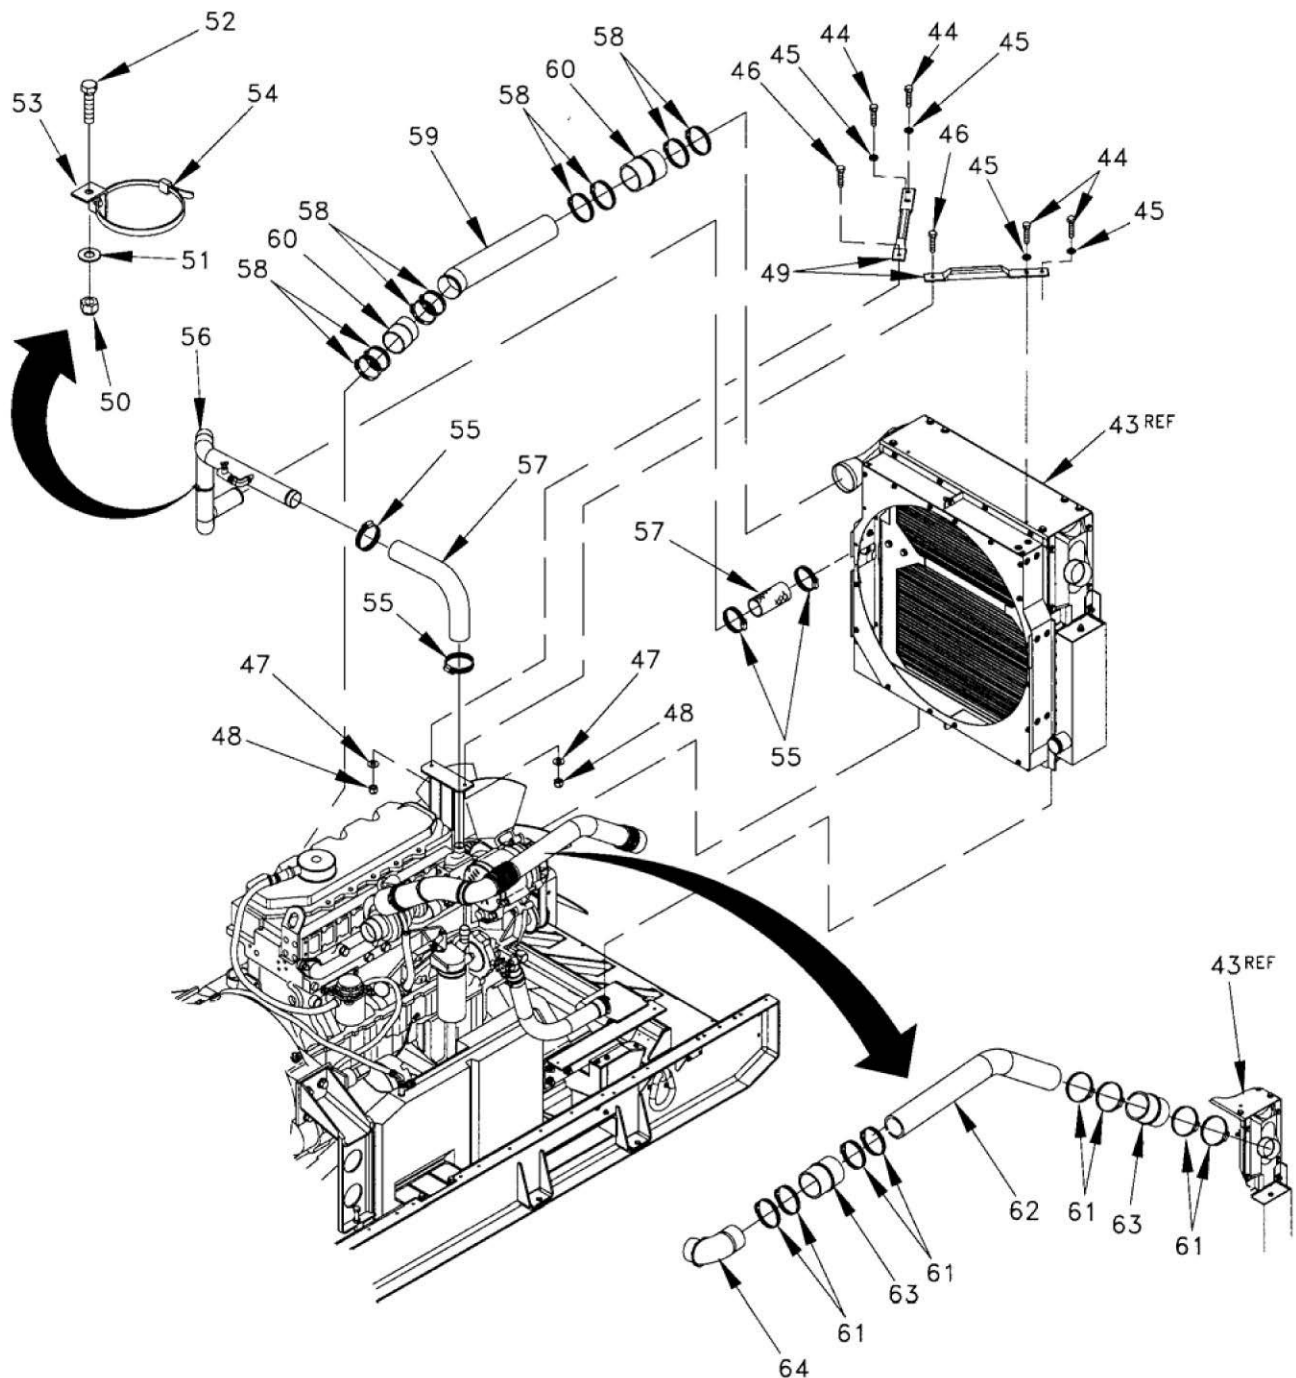

Figure 1. Fan and Fan Guards (Sheet 3 of 3).
5. Remove four screws (Figure 1, Sheet 1, Item 10), lock washers (Figure 1, Sheet 1, Item 11), washers (Figure 1, Sheet 1, Item 12), and lower right fan guard (Figure 1, Sheet 1, Item 9) from right shroud flange (Figure 1, Sheet 1, Item 6).